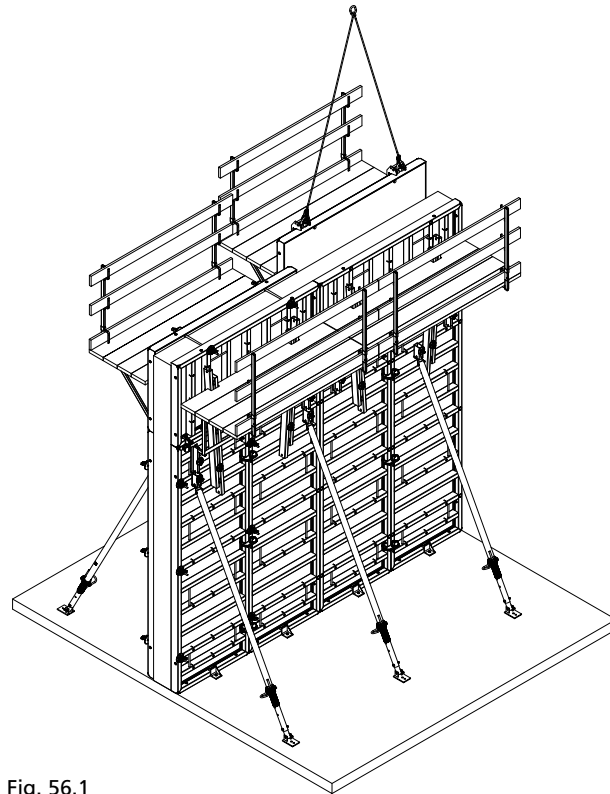

Fig. 56.1
**5.** Lift gang and move to next pour (bracing required), temporary storage, or disassembly area (Fig. 56.1).